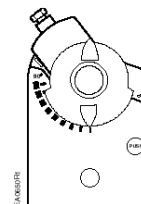

Figure 15.
- e. Place the position indicator to the "0" position on the outside scale. Figure 15.